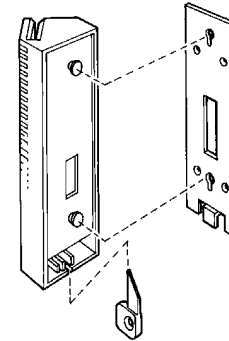

Figure 4
- Align the two protruding retainer pins in the underside of the reader assembly with the corresponding holes in the reader base plate. FIG 4.